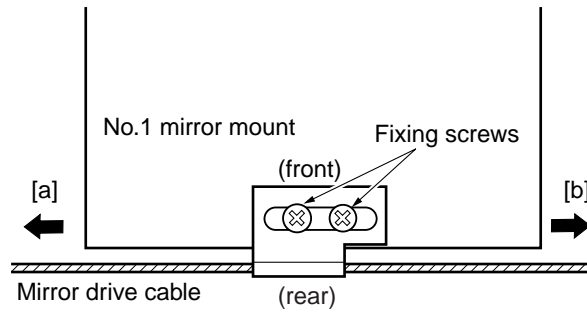

Figure 10-211 Top View
- x>y Move the scanner in direction [a] (Figure 10-211).
- x<y Move the scanner in direction [b] (Figure 10-211).